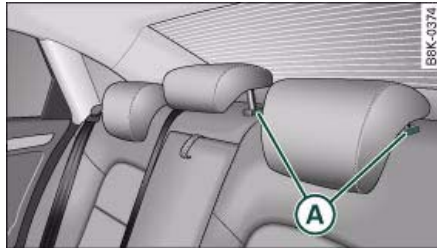

Fig. 80 Rear seats: Head restraint
- Press the button (A) ⇒ fig. 80 and push the head restraint downwards.